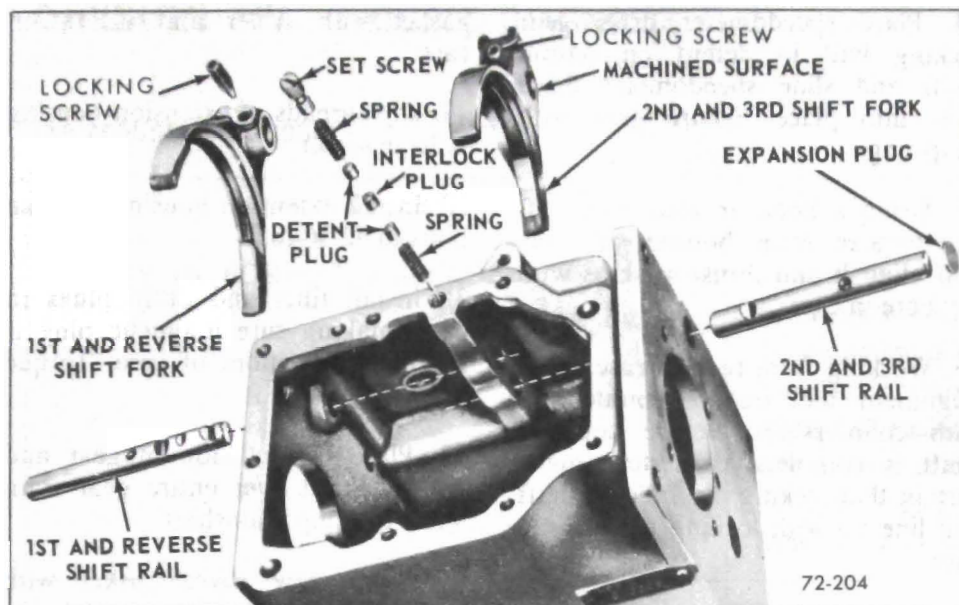

Figure 72-223 - Shift Rails, Fork and Detent Plugs
13. Install interlock plug in case. If second and third speed shift rail is in neutral position, top of interlock will be slightly lower than surface of first and reverse shift rail bore. See Figure 72-223.